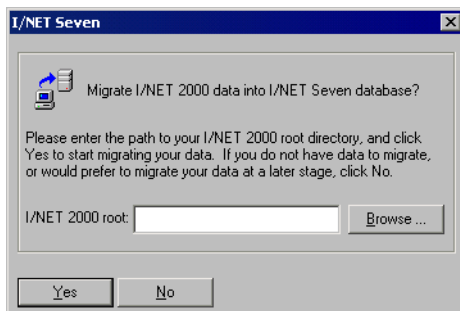

Figure 2-21. Preparing to Migrate TAC I/NET 2000 Data
24. When the database is done being built, DbCreate asks if you would like to migrate TAC I/NET 2000 data into the TAC I/NET Seven database (see Figure 2-21).